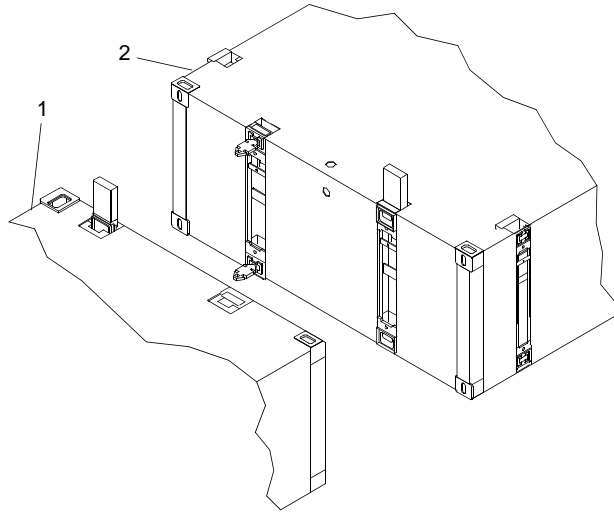

Figure 7. Separating Module Strings
2. Using crowbar, separate end rake/CBSE modules (figure 7, item 1) from center module (figure 7, item 2).